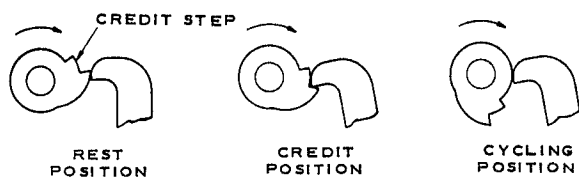

Figure 21. Cam Positions.
1. Turn the motor manually until the latch bar lever drops to the credit step of the cam and then reverse the direction until the point of the lever is against the vertical part of the cam as shown in Figure 21 above.
The selection switches have three conditions of operation corresponding to the 3-positions of the cam shown in Figure 21 and are operated by the cam through mechanical linkage. In the stand-by positions the switch latch bars are held against the pressure of the latch bar spring so the selector buttons are free to move in and out and will not stay in the pressed-in position. In the credit position the bars are released to a position which permits a selection switch, when pressed, to latch in the operated position but, if another switch is operated, the first will be released. In the cycling position the latch bars are fully released so the selection switches are locked in either the normal or pressed positions.
1. Place the cam in the Credit Position (Figure 21).